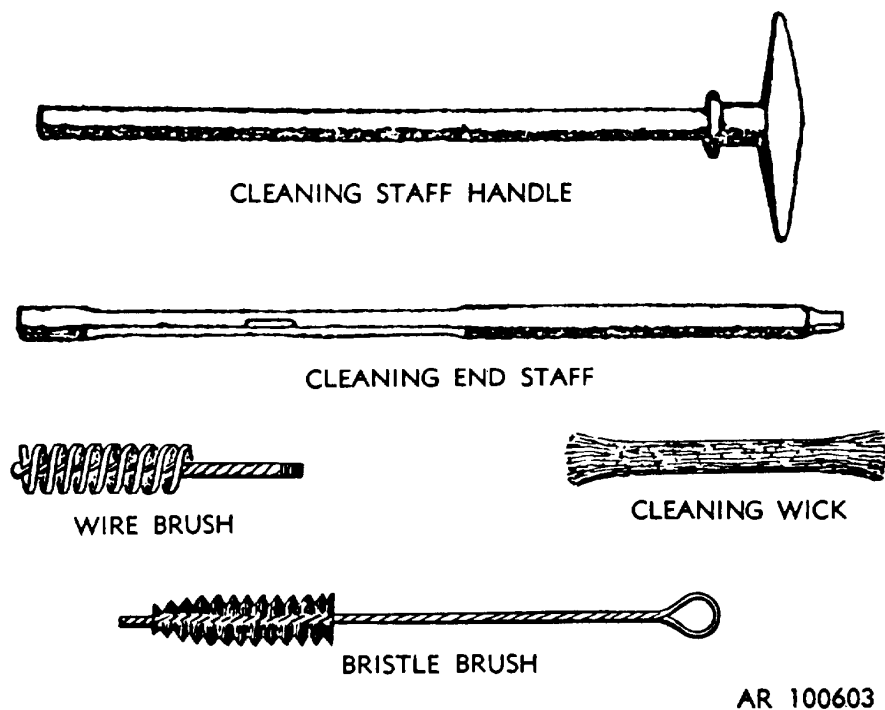

Figure 3-1. Cleaning staff assembly, cleaning wick and brushes.
c. *Sabot.* Assemble cleaning staff (fig. 3-1) by rotating end staff clockwise into thread end of staff handle. Clean the bore of the Sabot using the cleaning wick (fig. 3-1) attached in slot of end staff and saturated with rifle bore cleaner (see app. E). Thoroughly dry bore with clean dry wick attached to staff. Depress the firing pin of the flange nut assembly (fig. 1-4) prior to loading to assure that it is free to strike the primer of 22mm sub-caliber cartridge. Lubricate the firing pin (as required).
- b. Use bristle brush (fig. 3-1) to clean dirt off outer surfaces and threads of Sabot.
- b.1. Use bristle brush (fig. 3-1) to clean dirt and powder residue from the outer surface and threads of the flange nut assembly.
- d. Remove wick from end staff and attach wire brush (fig. 3-1) to staff. Insert in Sabot and remove powder fouling by running through full length of Sabot bore.